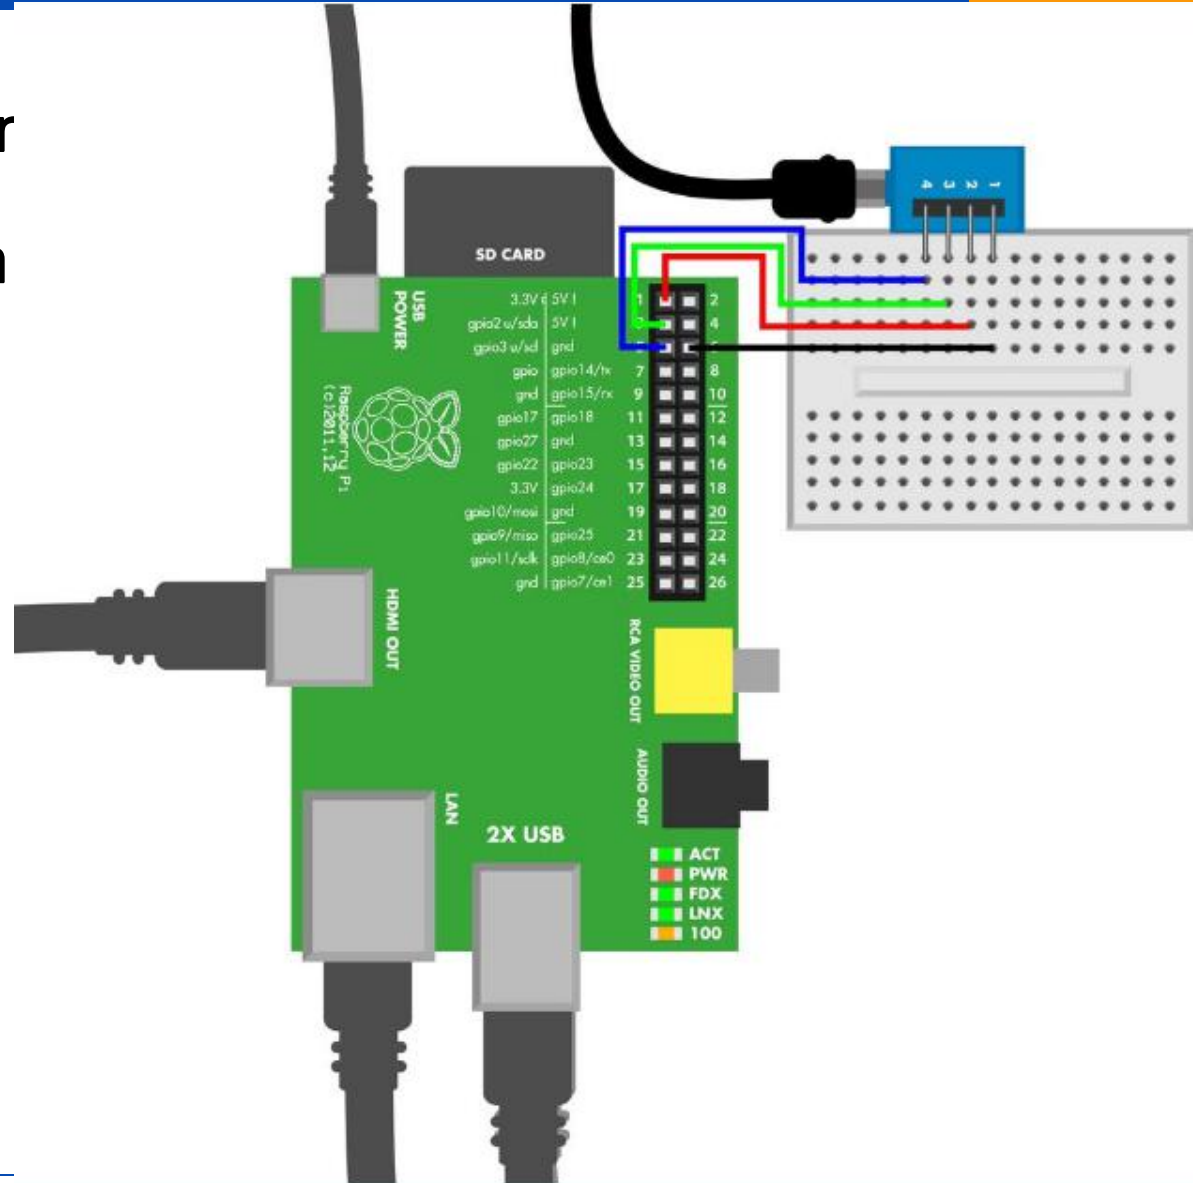

Figure 8-9. WiiChuck circuit for Raspberry Pi
- Figure 8-9 shows the connector